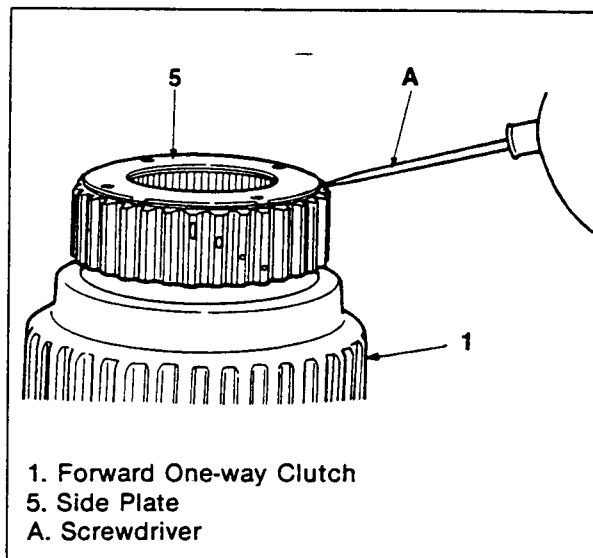

Figure 194. Side Plate Installation
2. Attach a new side plate by staking the lugs with a flat end screwdriver (figure 194).